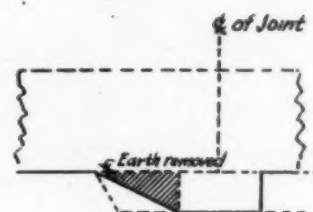

Fig. 3
3. Figs. 3 and 4.—Slope subgrade on alternate sides—Fig. 7.